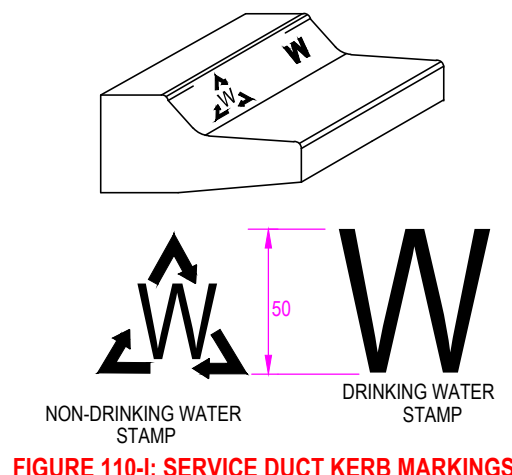

FIGURE 110-I: SERVICE DUCT KERB MARKINGS
10. Permanently stamp in wet kerb concrete a "W" (for DW), or a non drinking water symbol (as per Figure 110-G) in line with the service connection conduit on both sides of the road.